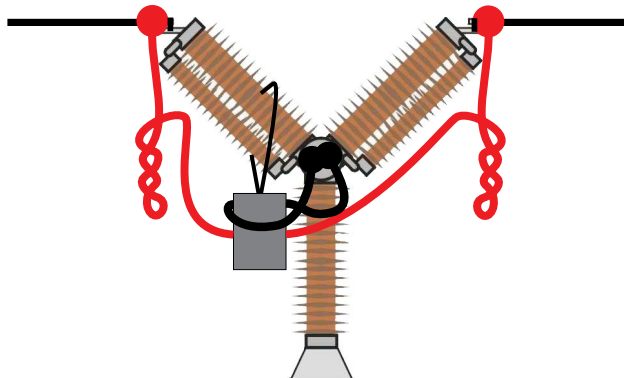

Fig. 7.2.2 By twisting the current cables you can reduce disturbances by minimizing the magnetic window created by the cable loops and the interrupter.
- 4] By twisting the cables as shown in the figure 7.2.2 you can reduce disturbances by minimizing the magnetic window created by the cable loops and the interrupter.